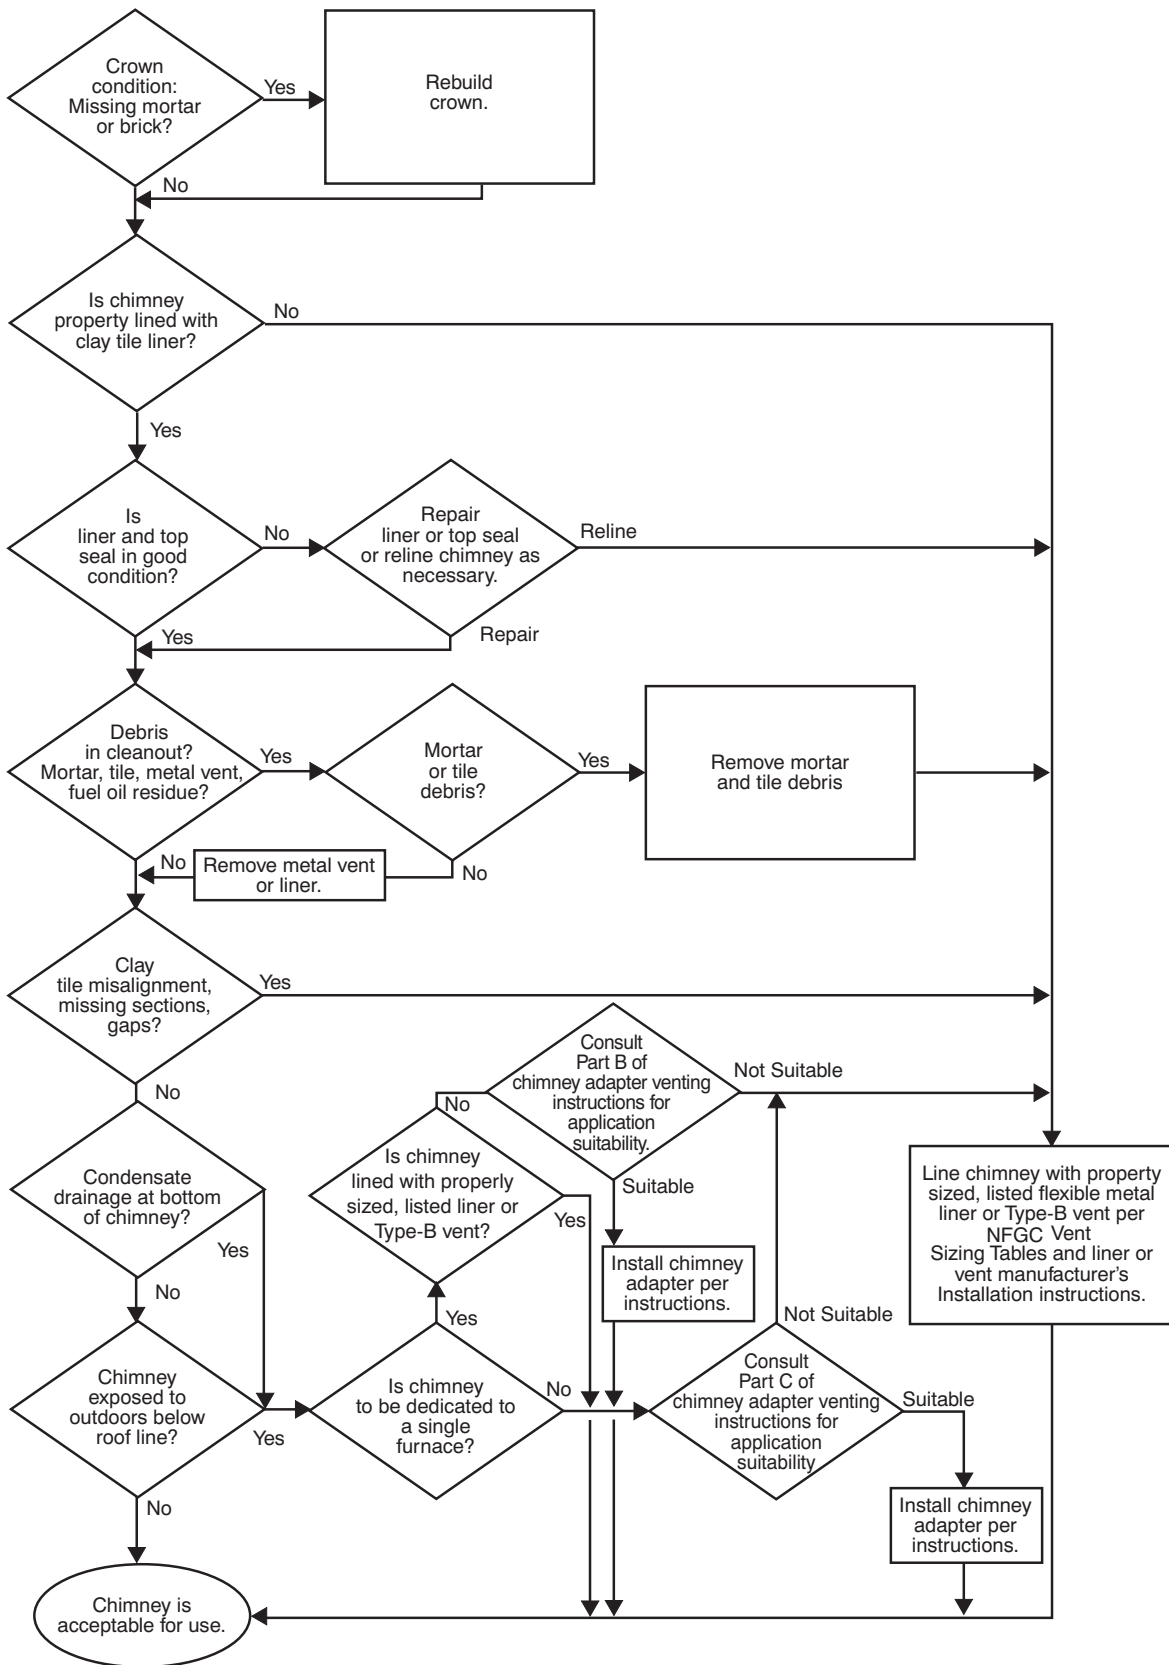

Fig. 35 - Chimney Inspection Chart
7. Do not vent this appliance into an unlined masonry chimney. Refer to Chimney Inspection Chart, Fig. 35.